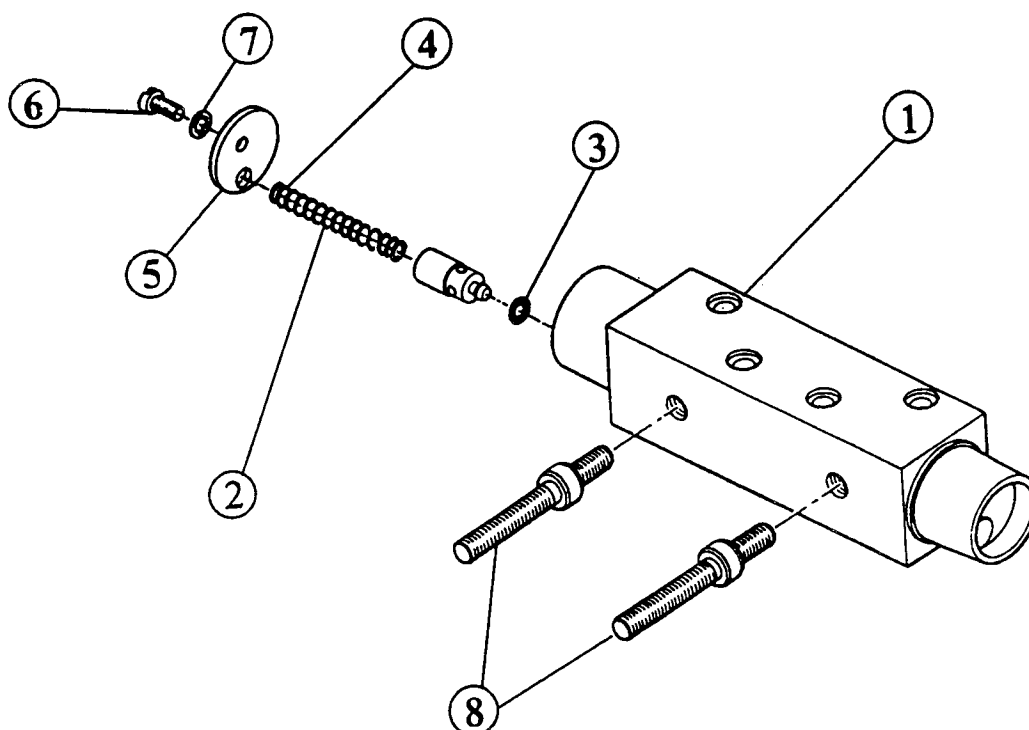

Fig. 8 Enflurane Connector Block
4.9 **Connector Block Pressure Relief Valve (Fig. 8)** (Enflurane models only)